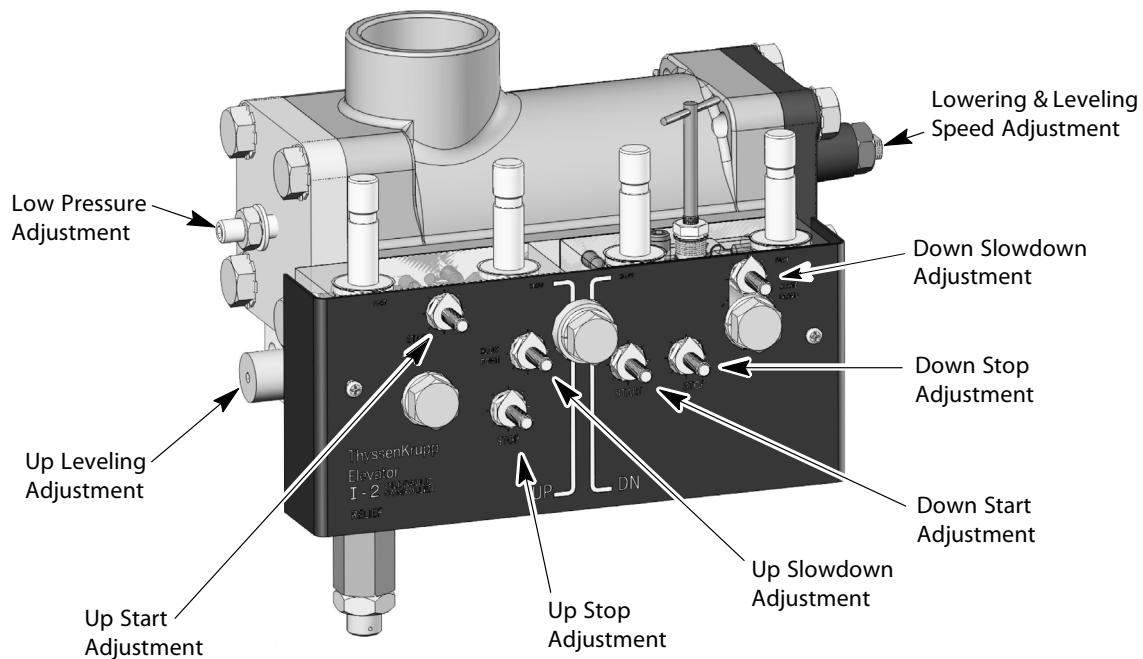

Figure 2 - Low Pressure Setting
1. Turn the low pressure adjustment screw OUT $1\frac{3}{4}$ " beyond the cover plate. See Figure 2.
4. Turn the up leveling adjustment screw IN four (4) turns.
1. Turn the up start, up stop, and up slowdown adjustment needles IN to the fully closed position. See Figure 2.
2. Turn the up start needle OUT nine (9) turns.
3. Turn the up stop needle OUT three (3) turns.